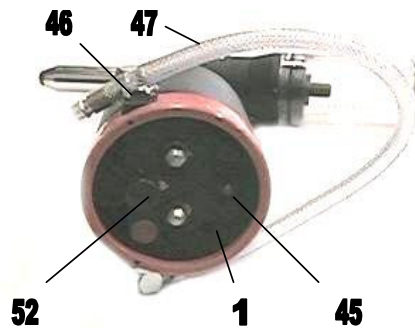

Figure 6.1
The replaceable nose pieces, 3 each (item 1, see figure 6.1).
Oil level indicator (item 45, figure 6.1) displaying oil shortage.